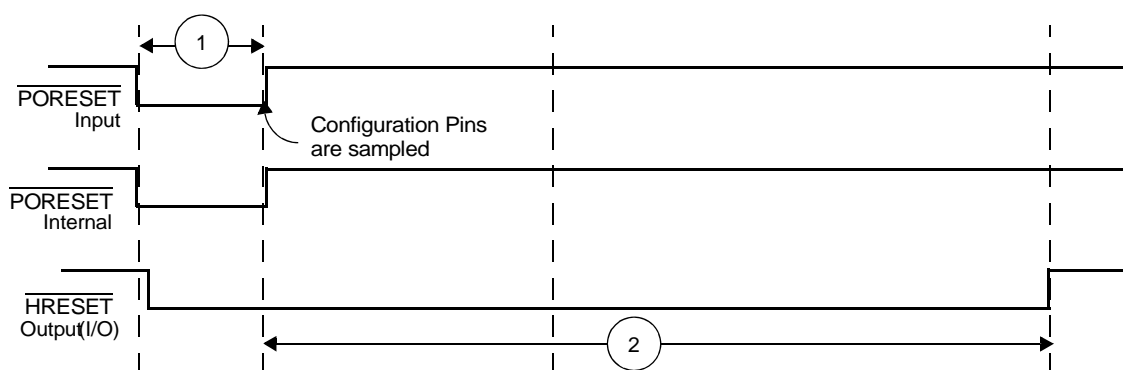

Figure 4. Timing Diagram for a Reset Configuration Write
**Table 16** and **Figure 4** describe the reset timing for a reset configuration write.